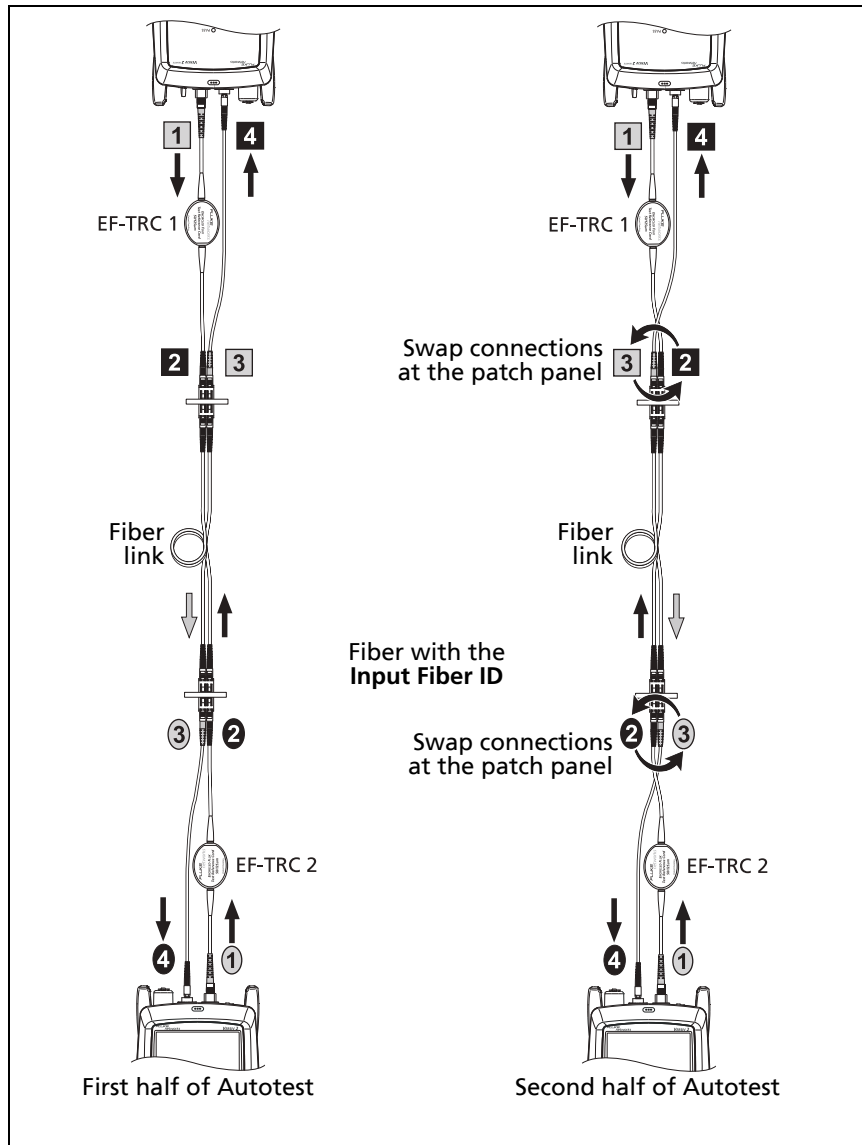

Figure 70. Connections for a Bi-directional Test in Smart Remote Mode (1 Jumper Reference, Multimode Fiber)
- 2 Connect to the link as shown on the left side of Figure 70.
- 6 Halfway through the test, the tester tells you to switch the input and output fibers. Connect to the link as shown on the right side of Figure 70.